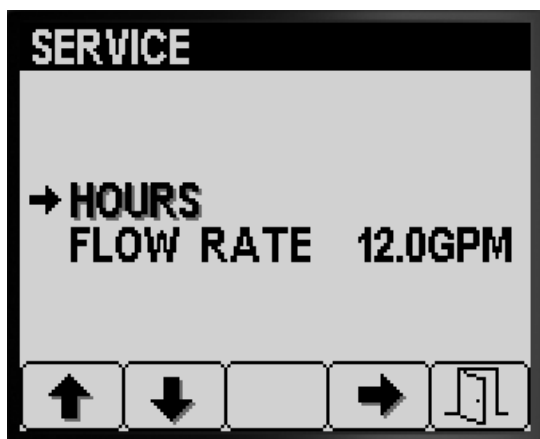

Figure 80
1. Press button 1 or 2 on the Service screen until you reach the HOURS option (Figure 80).
2. Press button 4 to select the Hours entry (Figure 80).